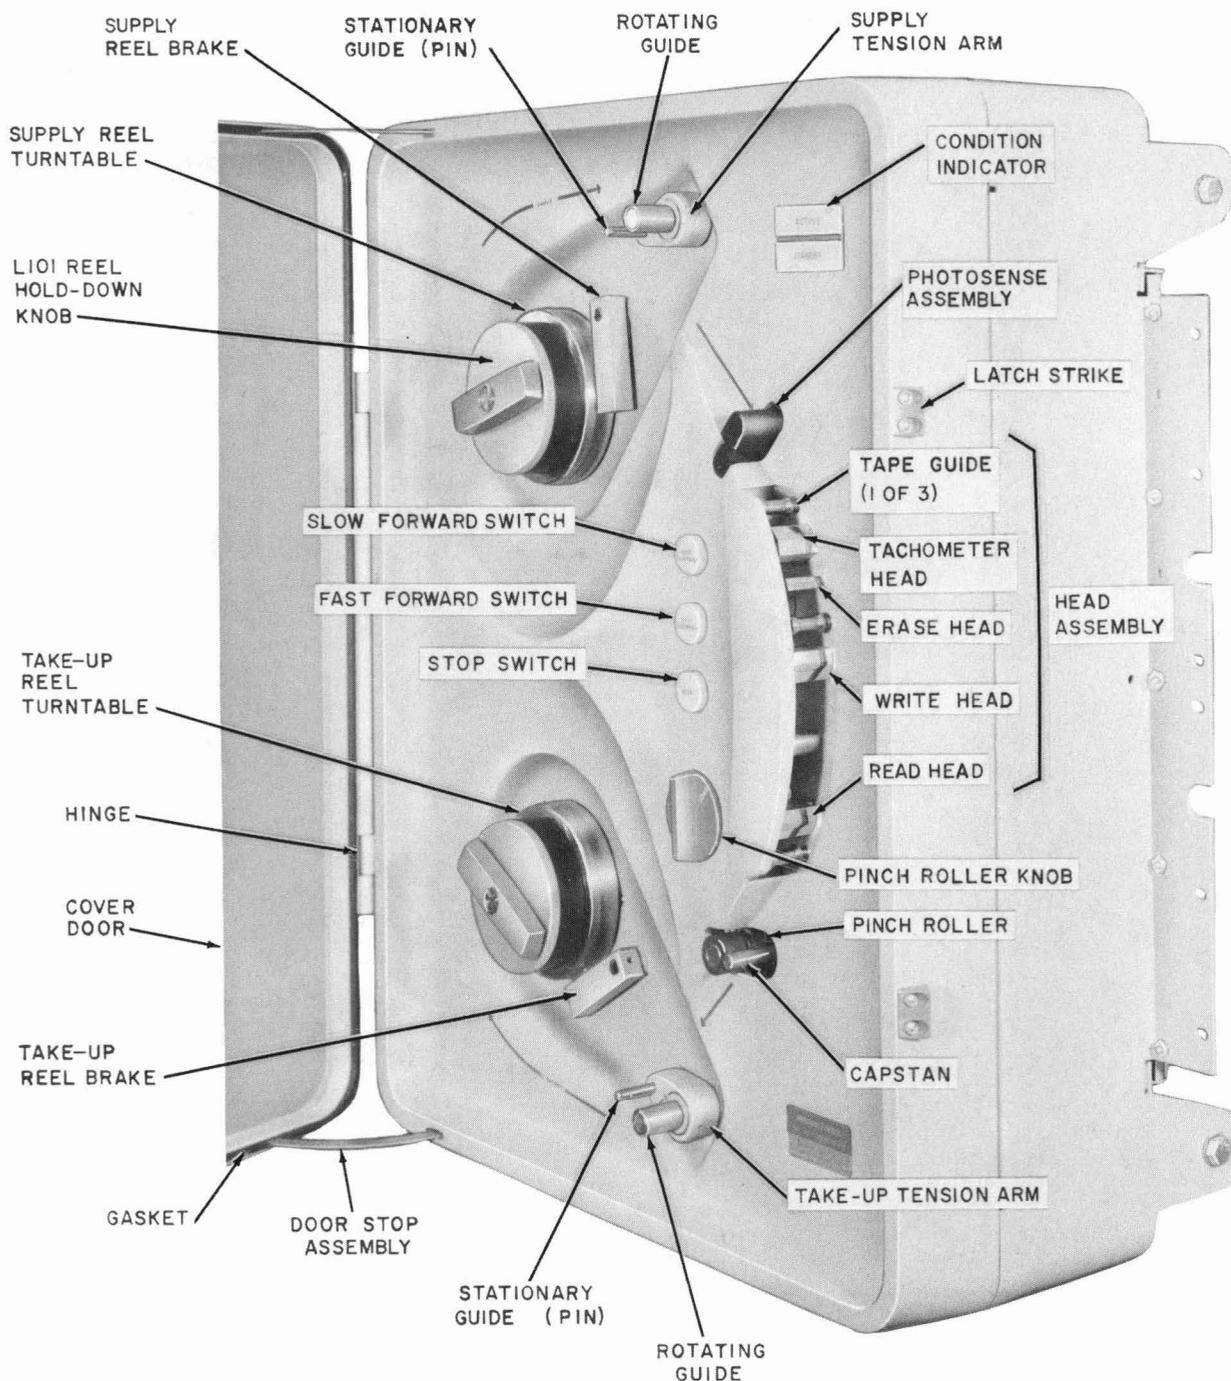
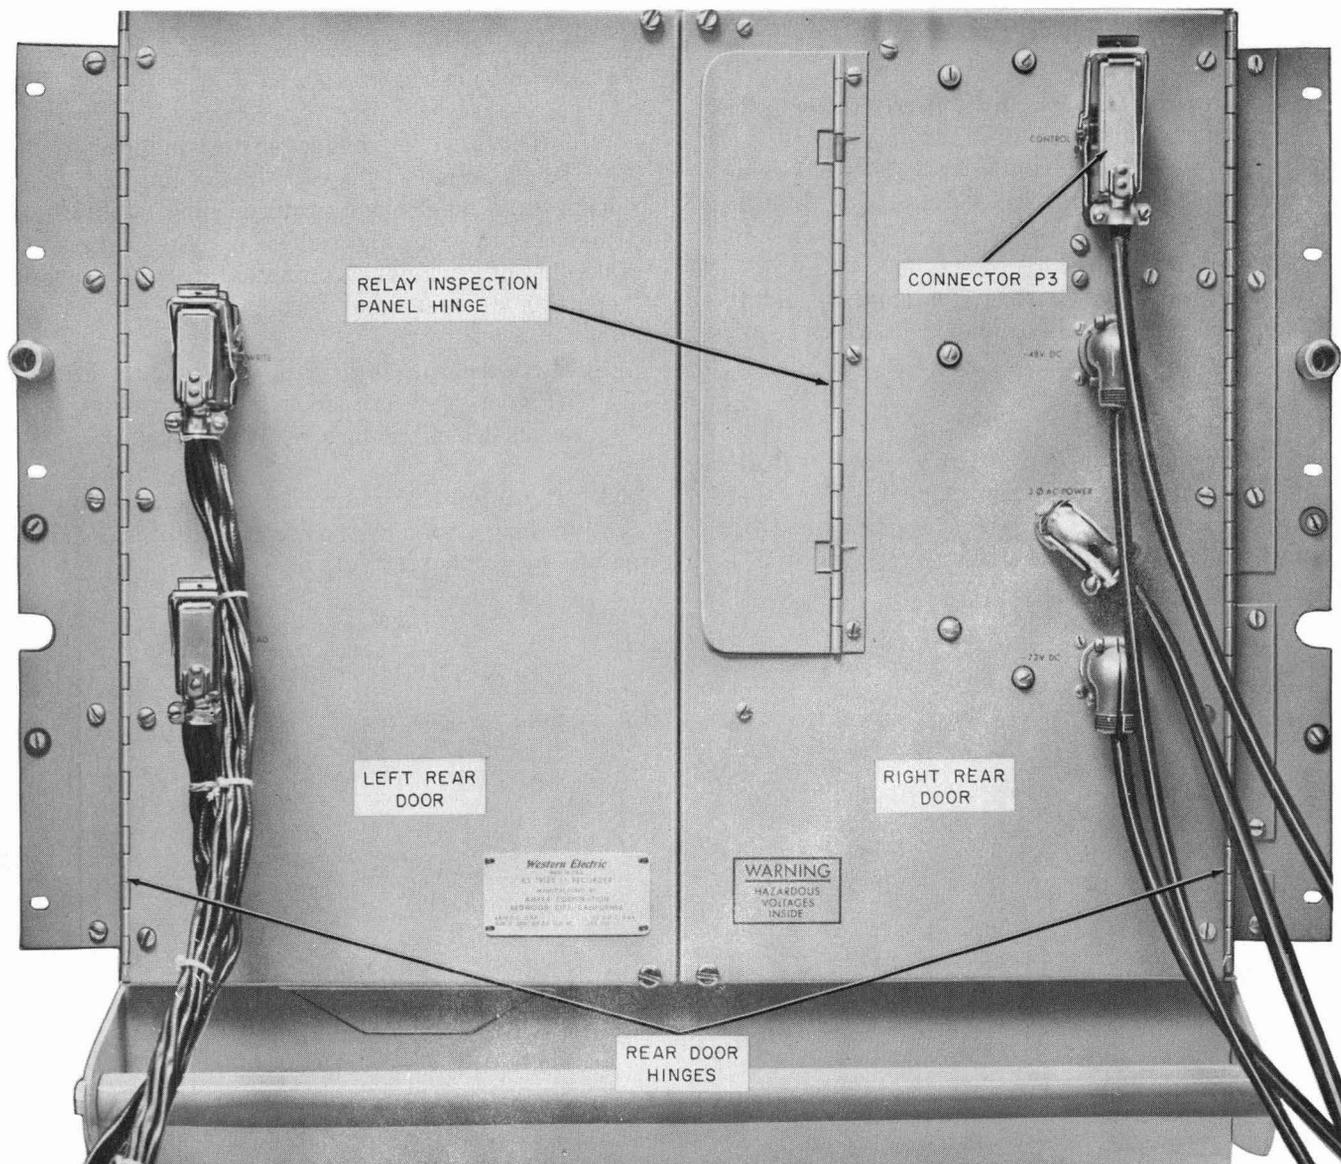

Fig. 2—KS-19125 L3 Recorder—Front View With Door Open
Fig. 5—Rear View of Recorder with Doors Closed
(b) **Tape Path:** The heads (Fig. 2), rotating and stationary guides, pinch roller, and capstan shall be *free of tape oxide, dust, and all other foreign material.*
(a) **Rotating Guides and Pinch Roller:** The rotating guides on the tension arms (Fig. 2) and the pinch roller contain ball bearings which require no lubrication service during their lifetime.
(d) **Hinges:** The front cover door hinge (Fig. 2), the rear door hinges (Fig. 5), and the relay inspection panel hinge require oiling at intervals to prevent wear and squeaks. Any excess oil should be removed immediately to prevent spotting of equipment finish.
(e) **Latches and Door Stops:** The latch strikes (Fig. 2) and the door stop assemblies use materials which require no lubrication.
(a) The pinch roller (Fig. 2) shall produce a force of 15 pounds ± 0.5 pound against the capstan with pinch roller knob in the RUN position. To check this requirement, proceed as follows.
2.09 FAST FORWARD, SLOW FORWARD, and STOP Switches: The local control switches shall operate smoothly and shall cause the correct equipment response. Operation of the SLOW FORWARD switch (Fig. 2) shall cause the tape to be driven over the head assembly at nominal recording speed. Operation of the FAST FORWARD switch provides a relatively fast speed for running the tape from the supply reel to the take-up reel. Operation of the STOP switch during
2.11 Condition Indicator: Both lamps of the STANDBY section of the condition indicator (Fig. 2) shall light during the standby condition as determined by the remote equipment. Both lamps
the two rear doors (Fig. 5) when they are closed. Gauge by eye.